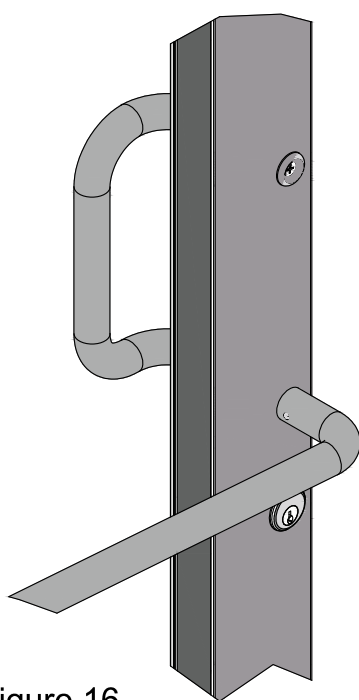

Figure 16
8. Completed assembly. See Figure 16.